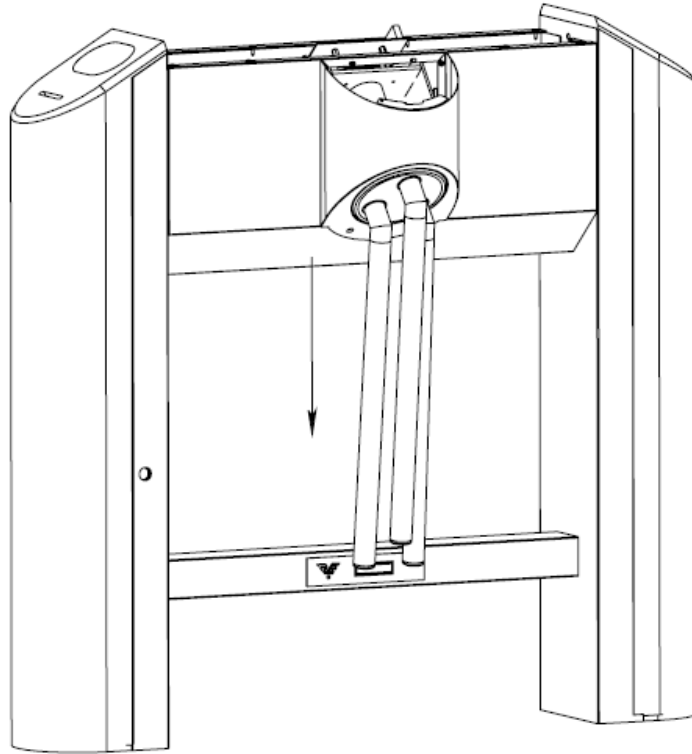

Fig. 7
- Remove the bottom cover by moving it vertically down, as shown in Fig. 7.